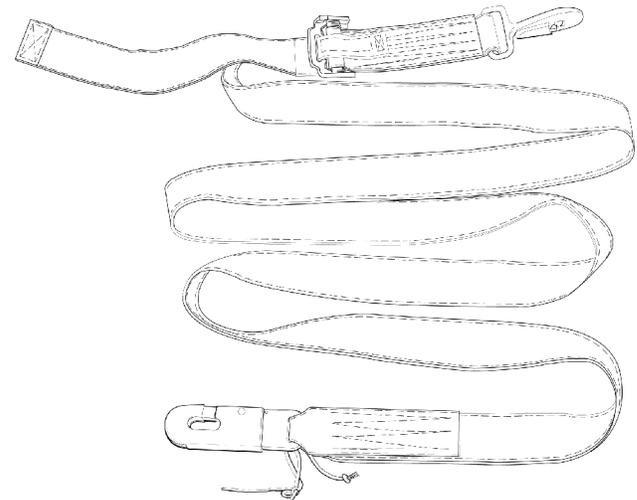

Figure 3. Modified Tie Down Strap Assembly
(4) See pictorial of modified Tie Down Strap Assembly (Figure 3).